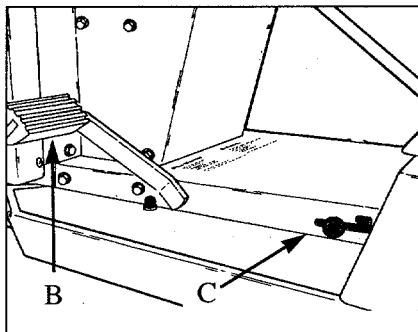

Figure 4-3: Depress Brake Pedal (“B”) fully to disengage the parking brake (“C”).
3. Release Parking Brake (“C”, Fig. 4-3), by fully depressing the Brake Pedal (“B”). Position both hands securely on steering wheel.